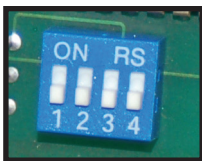

Figure 3: Dipswitches
2. Dip Switches (1-4) - See Figure 3.
- No ORP1 or ORP2 feed if pH is feeding (ON).
- No ORP1 or ORP2 feed if pH is in alert mode (ON).
- Feed base chemical when pH level falls below set point. (ON)